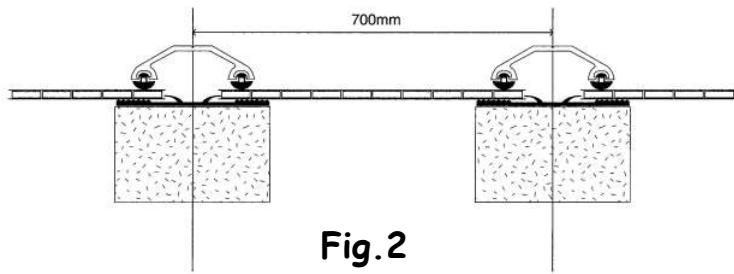

Fig. 2
Step 1: Measure and set out where the rafters and, if they are going to be used, purlins are going to lie. Rafters should be 50mm wide when installing the P501 system. 10mm sheet can be accommodated at centres no more than 700mm apart (Fig.2). Wider sheets will need noggins adding between the rafters. The sheet will need fastening down on to these noggins using Fixing Buttons.